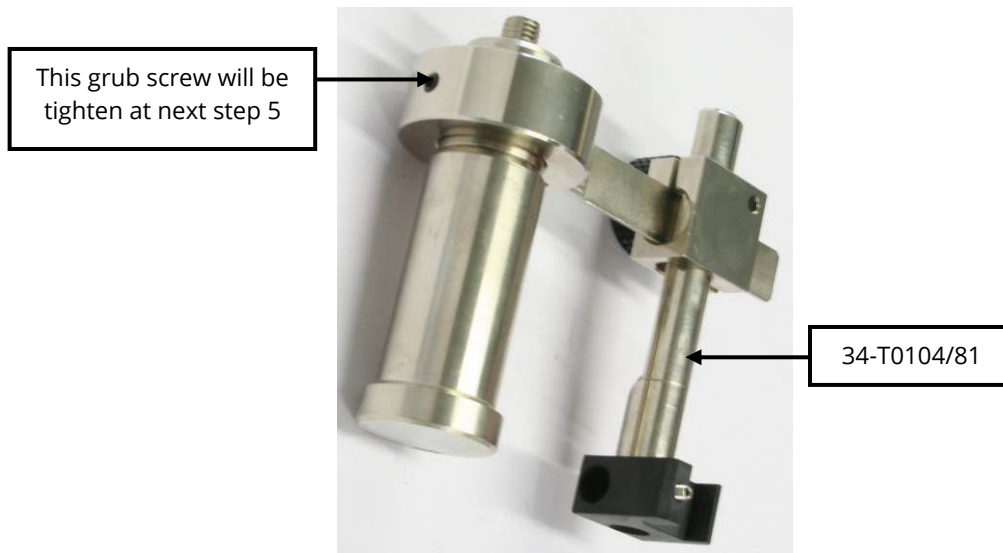

Fig. 4-6
5. Screw in the compression device plus transducer holder, install the displacement transducer P0322 (tighten the relevant fixing grub screw) and place the stability mould B0033 on the **SPEEDLOADER** lower platen centering it by means of the centering screw; then adjust the position of the displacement transducer in order its stem touches the upper bar of the stability mould and tighten the grub screw shown in previous Fig. 4-6;